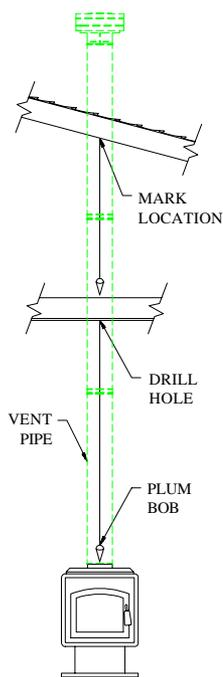

Fig 13
Step 2. Set the gas appliance in it's desired location. Drop a plum bob down from the ceiling to the position of the appliance flue exit, and mark the location where the vent will penetrate the ceiling. Drill a small hole at this point. Next, drop a plumb bob from the roof to the hole previously drilled in the ceiling, and mark the spot where the vent will penetrate the roof. (Fig. 13) Determine